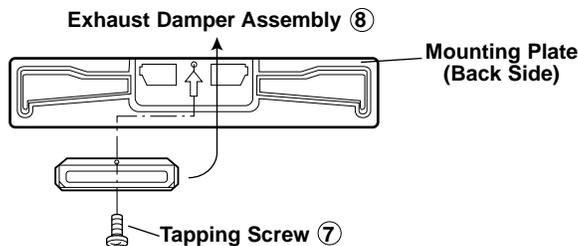

Figure 13
6. Attach the Exhaust Damper Assembly ⑧ to the back of the Mounting Plate by sliding it into the slits in the same direction as the arrow. See Figure 13. Use Tapping Screw 4 X 12 ⑦ from the INSTALLATION HARDWARE and tighten into place.